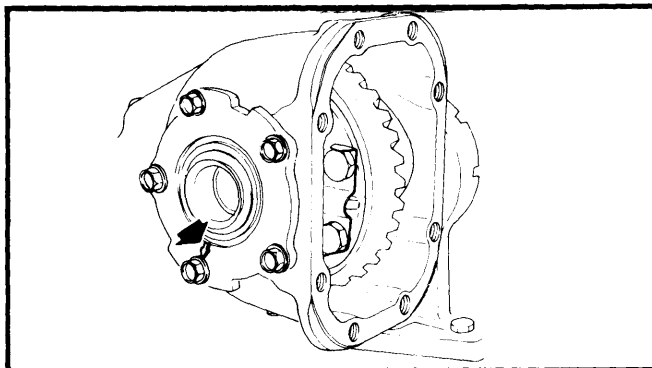

Fig. 12 Aligning Side Retainer During Installation
2) On R180 differentials, install differential case assembly in gear carrier in reverse order of disassembly. Fit correct shims and "O" ring seal in both side retainers in carrier. Arrow should point as shown in Fig. 12.